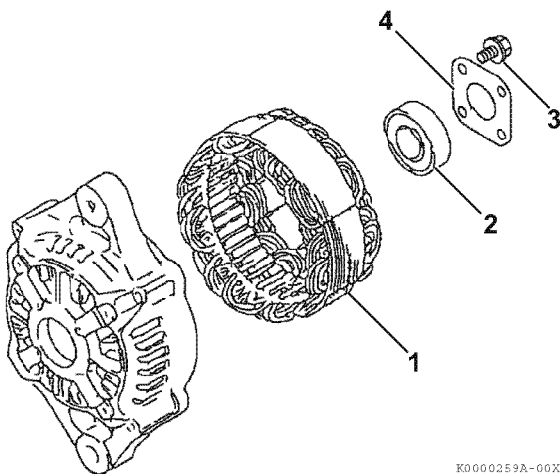

Figure 11-10
9. Remove the stator assembly (**Figure 11-10, (1)**) from the front frame housing.
10. If it is necessary to replace the bearing (**Figure 11-10, (2)**) in the front frame housing, remove the four bolts (**Figure 11-10, (3)**) securing the plate (**Figure 11-10, (4)**) to the front frame housing. Remove the plate. Use a puller to remove the bearing. Discard the bearing.